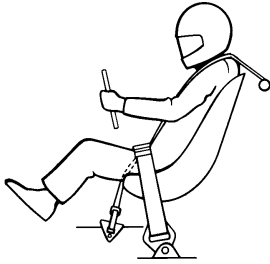
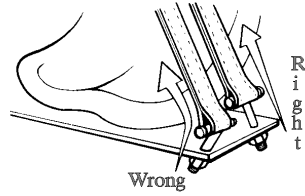

Figure 5: Safety Harness Mounting showing Correct Shoulder, Lap, and Crotch Strap Locations.
Figure 6: Safety Harness Mounting Hardware showing Correct Angle that will Sustain Maximum Load.
All vehicles except Motorcycles and ATV's must have a heavy-duty type five-point fast release (*no push button or quick release type*) seat belt and shoulder harness with metal-to-metal buckles and connectors for each occupant. The single anti-submarine strap of the five-point system shall be attached to the floor structure as close to the front of the seat as practical so that it will exert maximum restraint to the upward movement of the belt and harness, see Figure 5 and Figure 6. The five-point system consists of a 3" seat belt, a 2" anti-submarine belt, and two 3" shoulder straps. No "Y" type shoulder belts. All belts must show manufacturer's name, month, and year of manufacture. All belts must be changed after three (3) years of date of manufacture. SCORE recommends all belts be changed after one (1) year of use. No surplus safety harnesses are allowed.
Shoulder harness should be mounted behind the driver/co-driver. The recommended mounting point is approximately 4" below top of shoulder. Lap belts should be kept at a minimum at least 2.5" forward of seat and backrest intersection, see Figure 5 and Figure 6. All belts must be mounted directly to a main structure member of the same size specification as the roll cage and with gussets. All adjustment buckles should be kept at a minimum distance of 1.5" from the seat to prevent accidental loosening or chafing. Mounting hardware must utilize at least .312" hardened steel bolts with 1.5" diameter washers attached through body or frame using lock nuts or cotter key. All belt hardware must be safety tied.